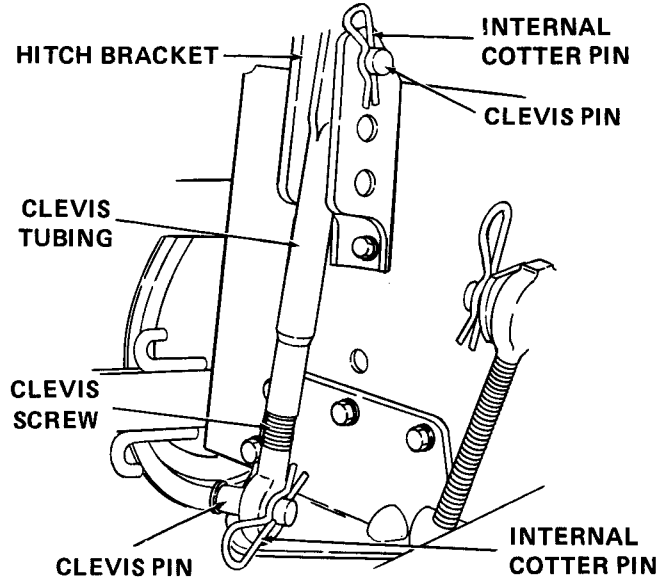

Figure A-23
- b. Place clevis tubing inside hitch bracket. Insert clevis pin (S) and secure with internal cotter pin (O). Refer to Figure A-23.
- c. Insert clevis pin (S) through looped end of clevis screw and secure with internal cotter pin (O). Refer to Figure A-23.